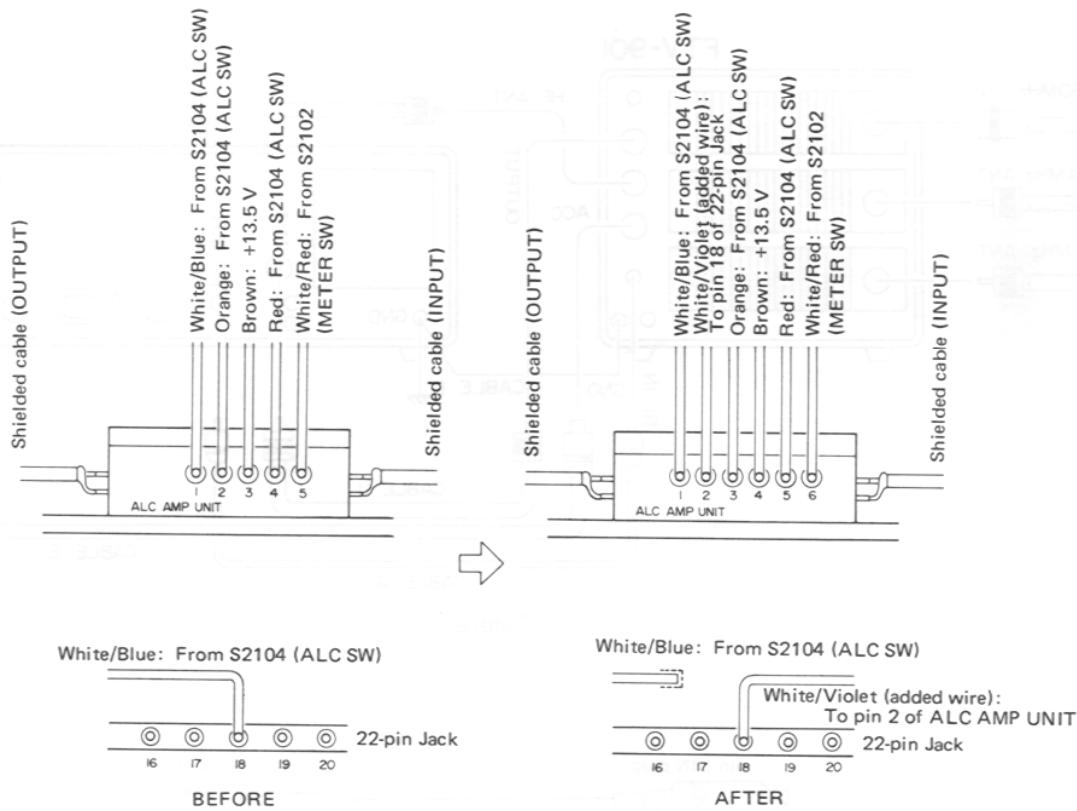

Figure 6
- c. Reconnect the wires to the new Unit as shown in Figure 6 and described below: